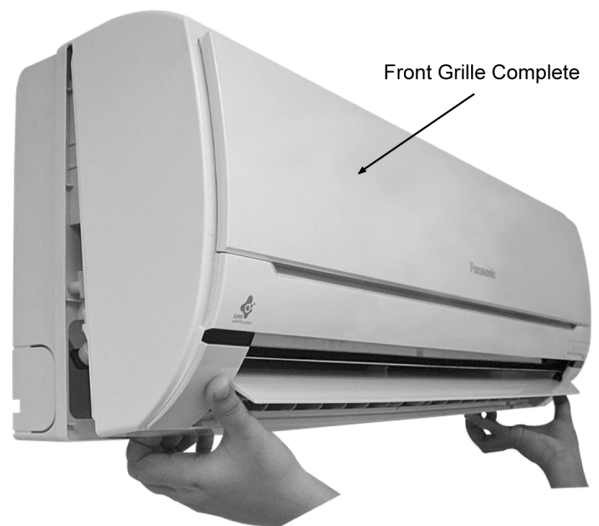

Fig. 2
- Remove the Front Grille Complete. (Fig. 2)